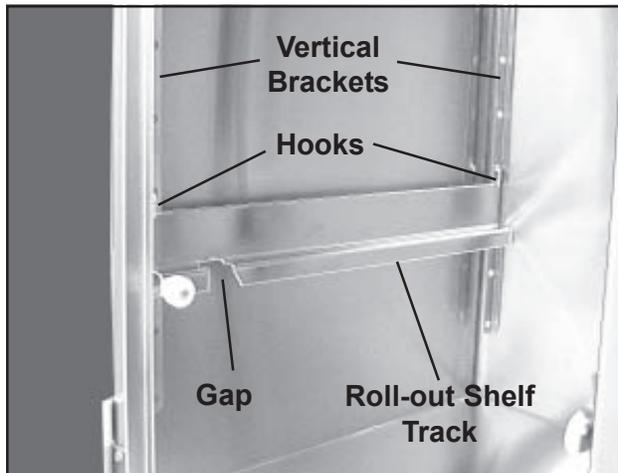

Figure 34. Roll-out Shelf Track and Vertical Brackets
2. Lift up on the roll-out shelf track and unhook it from the front and rear vertical brackets (Figure 34).
2. If replacing a roller on the roll-out shelf track, lift up on the track and unhook it from the front and rear vertical brackets (Figure 34).